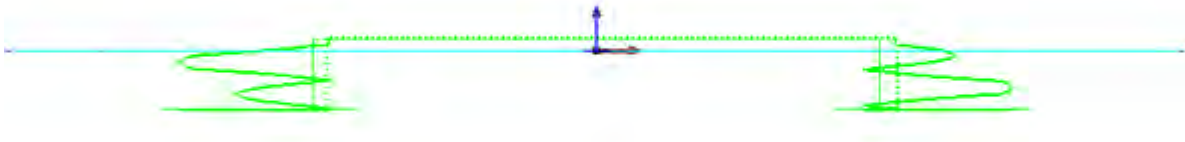

figure 22.1
22. Click **OK** in the dialog and recompute the tool path. Notice now how the pocket is being generated as a helical profile (figure 22.1). Because the size of the tool will cut the pocket leaving no stand-ups a helical profile is generated. This is important to know, because pockets may be encountered where you know that the tool will fit, but the system gives a "**Tool may be too large**" error. The solution to this is making sure the **Cleanup Corners** option is selected inside the feature.